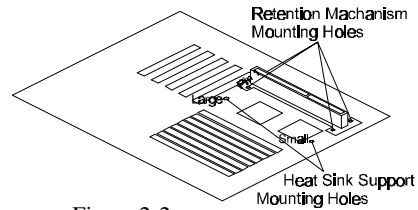

Figure 2-2
1. Finds out the Retention Mechanism (RM) Mounting Holes and "Pin 1" mark of Slot 1 on HOT-635 main board. (Refer to Figure 2-2)